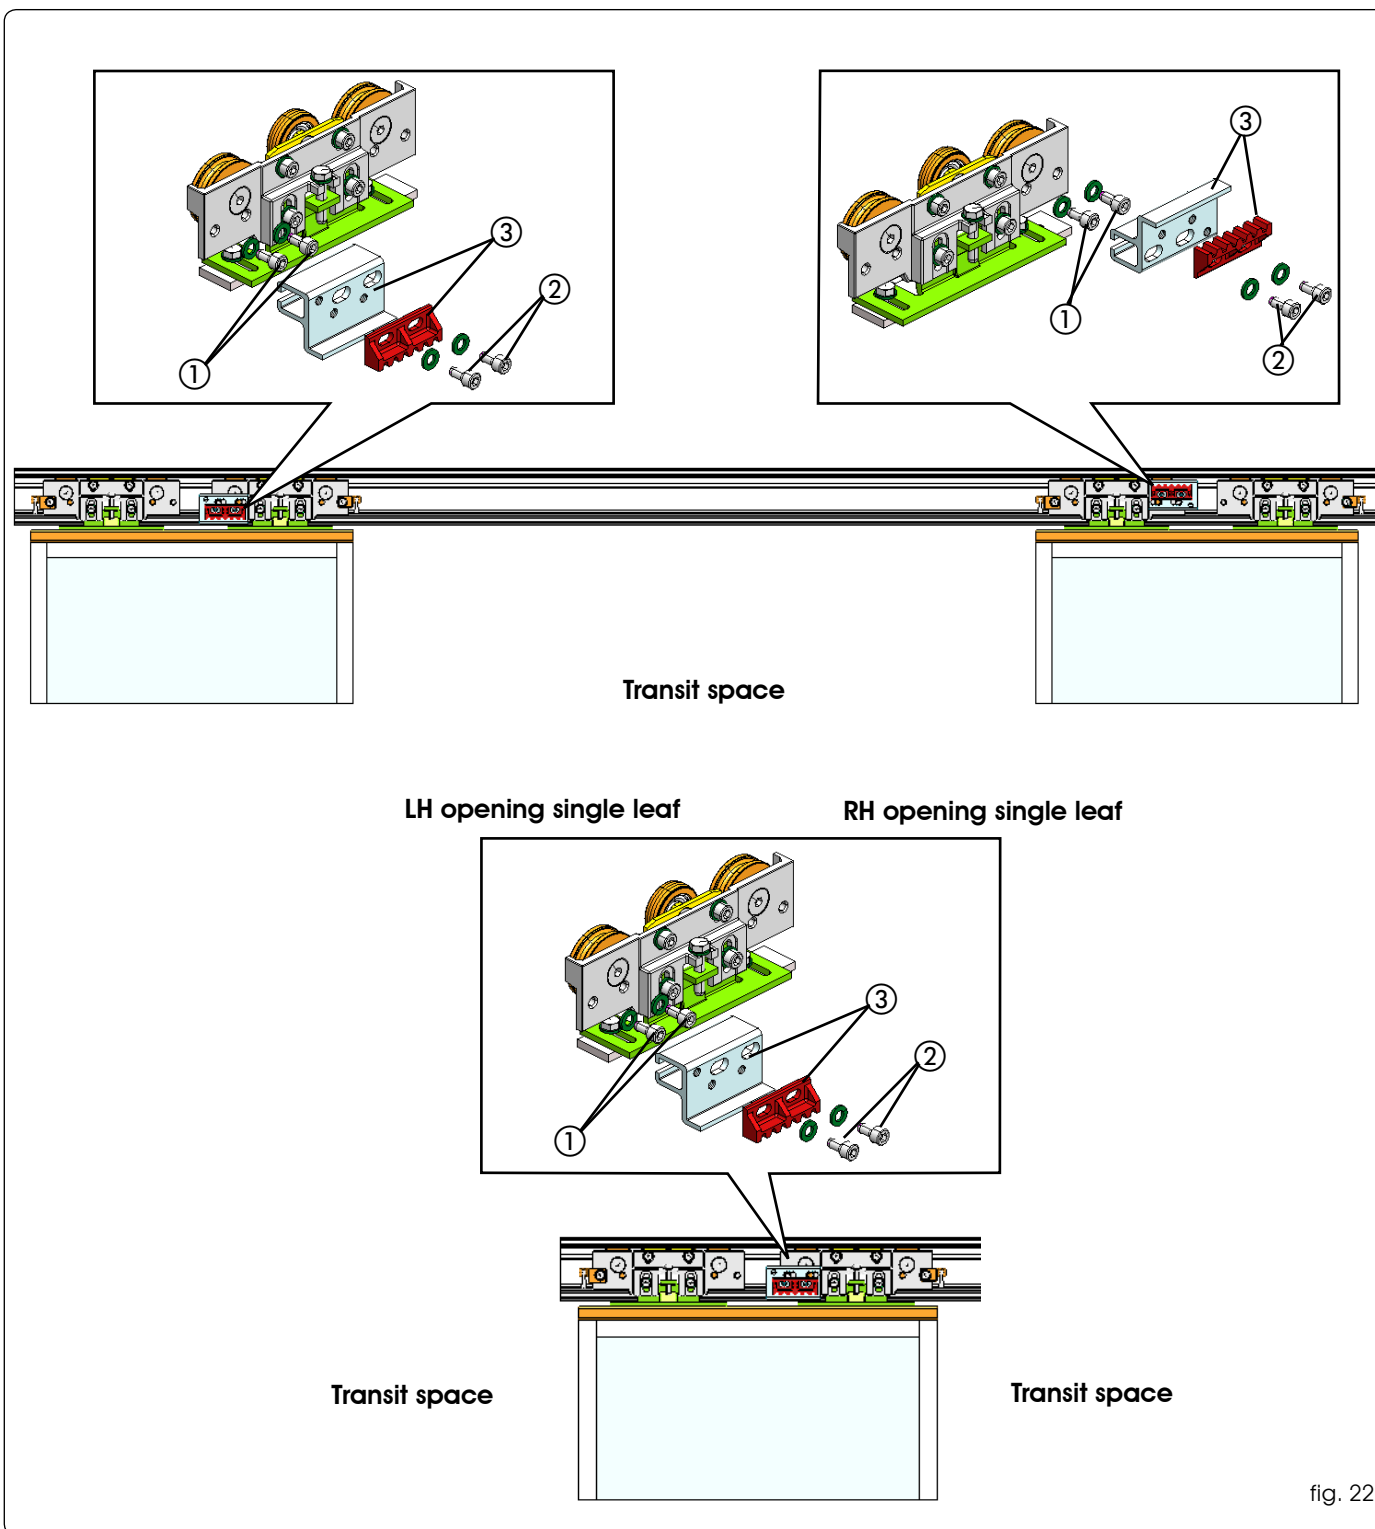

fig. 22
The automated system is supplied with the belt fastened to the carriages by the fastening fittings (Fig. 22 ref. ③). It is usually unnecessary to modify this fastening, but, if it is necessary to adjust finely, proceed as follows:
- Turn the two pairs of screws (Fig. 22 ref. ① and ②) of each carriage to obtain the required adjustment.
- Tighten the screws (Fig. 22 ref. ① and ②).